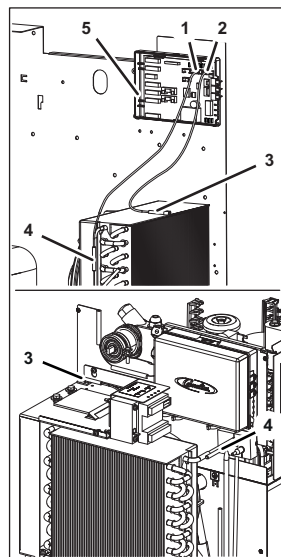

Figure 48
1. Disconnect the plug (Figure 48/1) of the ambient temperature probe (Figure 48/3) or the plug (Figure 48/2) of the hot gas sensor (Figure 48/4) from control system 1 (Figure 48/5).
3. Remove the insulation from the hot gas sensor (Figure 48/4).
4. Carefully pull the ambient temperature probe (Figure 48/3) or the hot gas sensor (Figure 48/4) out of the unit, along with the electrical cable.
5. Install the new ambient temperature probe (Figure 48/3) or the new hot gas sensor (Figure 48/4) within the unit, along with the electrical cable.
6. Attach the insulation to the hot gas sensor (Figure 48/4).
7. Attach the ambient temperature probe (Figure 48/3) or the hot gas sensor (Figure 48/4) using cable ties.
8. Connect the plug (Figure 48/1) of the ambient temperature probe (Figure 48/3) or the plug (Figure 48/2) of the hot gas sensor (Figure 48/4) to control system 1 (Figure 48/5).